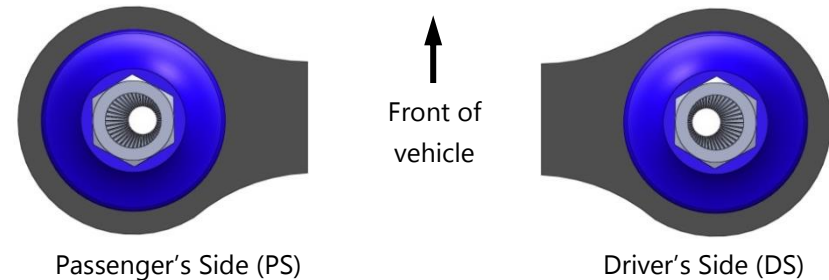

Figure 2: Illustration of Castor Settings
- With reference to the Figure 2, adjust the new crush tube with the spanner provided, so that the hole in the bushing is positioned to give the desired castor result;